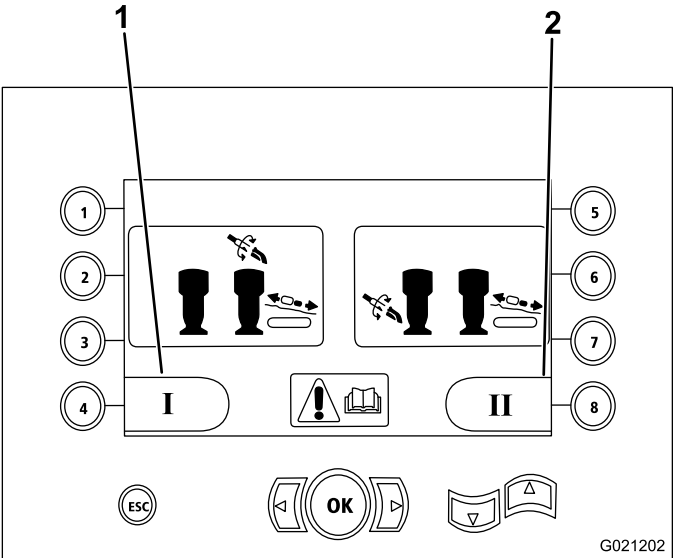

Figure 8
- Mode I—places the drilling functions on right joystick, while the left joystick operates the pipe loader and the wrench functions (Figure 8).
Press button number 4 to select this mode (Figure 8).
- Mode II—splits the drilling, wrench, and pipe loading between the left and right joysticks (Figure 8).
Press button number 8 to select this mode (Figure 8).